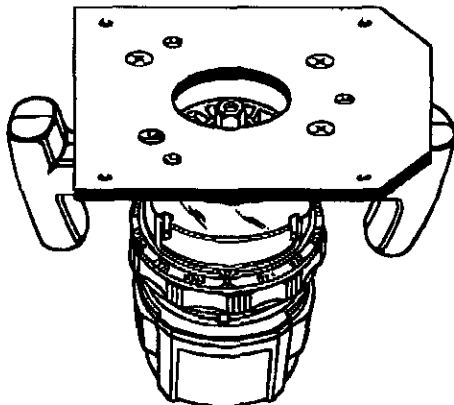

Fig. 6
- Properly installed, the mounting plate will be securely attached to the router. See Figure 6.